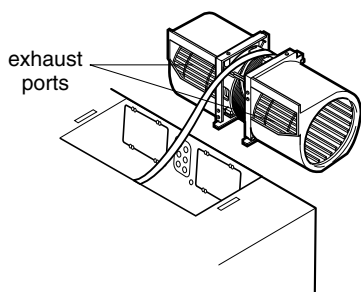

Figure 18
3. Rotate blower unit so that the exhaust ports face the front of the cabinet. See Figure 18.